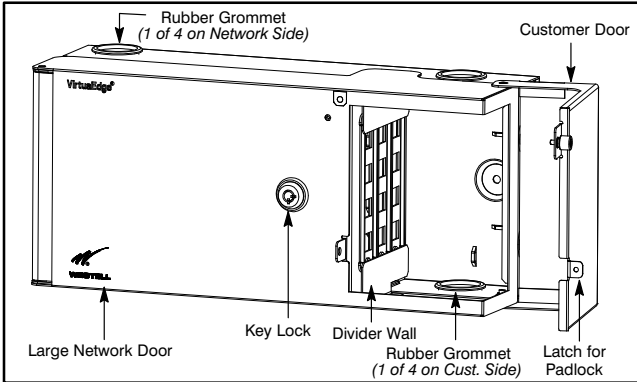

Figure 2. VEUE-30 with Customer Door Open
1. Open the Customer-side door (see Figure 2) by unscrewing the two screws and removing any optional padlock.